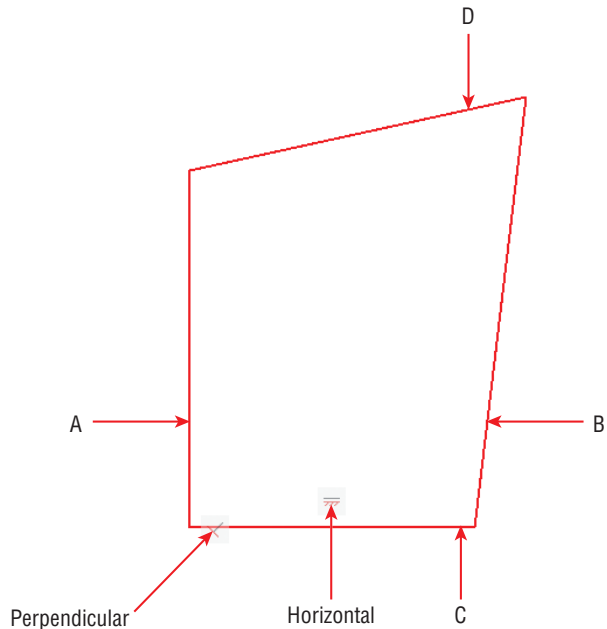
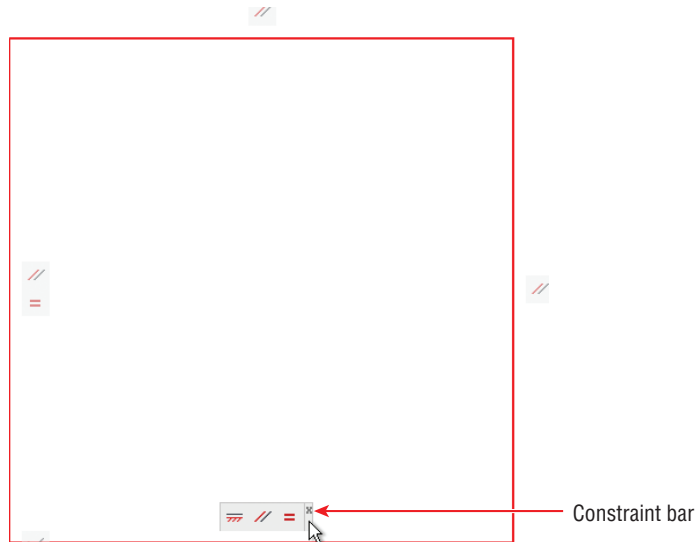

FIGURE 12.3 Applying constraints with the Auto Constrain tool
FIGURE 12.4 Applying Equal constraints to adjacent sides turns the rectangle into a square.
- Select the **Parametric** tab on the ribbon, and select the **Auto Constrain** tool in the **Geometric** panel. Select the unconstrained rectangle on the left and press **Enter**. Two constraints are applied: perpendicular and horizontal (see Figure 12.3).
8. Select the Parallel constraint tool in the Geometric panel. Click lines A and B, as shown in Figure 12.3. Line B is automatically repositioned to conform to the parallel constraint applied to line A.
9. Press the spacebar to repeat the GCPARALLEL (for Geometric Constraint Parallel) command. Click lines C and D, as shown in Figure 12.3.
11. Select the Equal constraint tool in the Geometric panel. Click lines A and C, as shown in Figure 12.3. The rectangle becomes a square (see Figure 12.4).